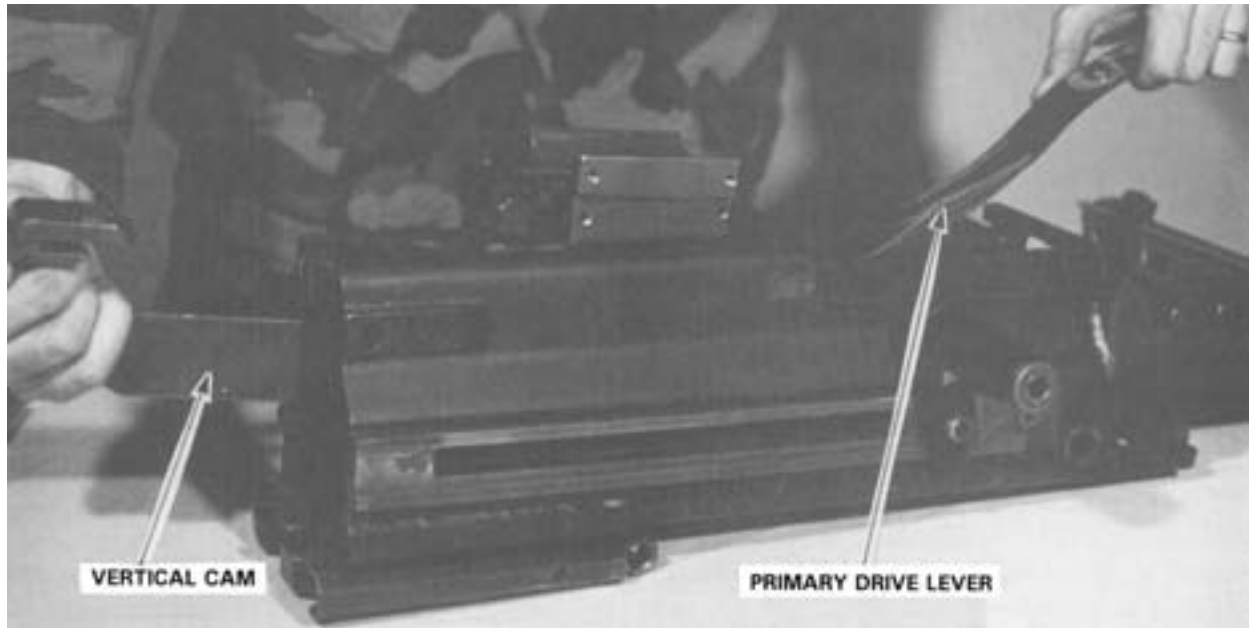

Figure 5-18. Removing the Primary Drive Lever and Vertical Cam.
- Pull out the lever and cam from their respective ends of the receiver. See figure 5-18.
- (2) Removing the alignment guide**